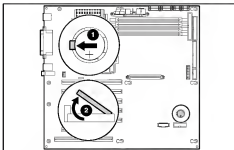

Figure 3-36. Removing the battery from the system board
2. Locate the battery on the system board. See Figure 3-36 for the battery location.